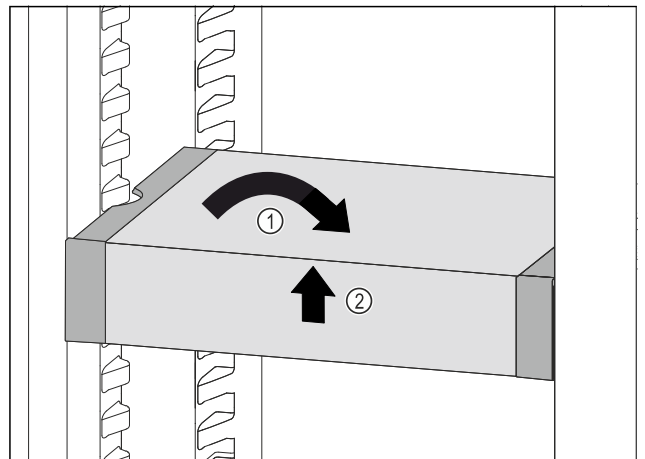

Fig. 57
- ▶ Set VarioSafe straight. Fig. 57 (1)
- ▶ Lift VarioSafe at the front. Fig. 57 (2)